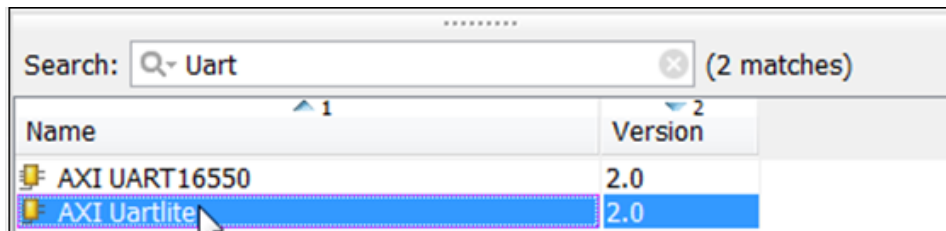

Figure 105: AXI UartLite
2. From Add Peripherals, search for, and select the **AXI UartLite** (Figure 105).
Notice that a checkmark shows where there are possible connections (Figure 105).